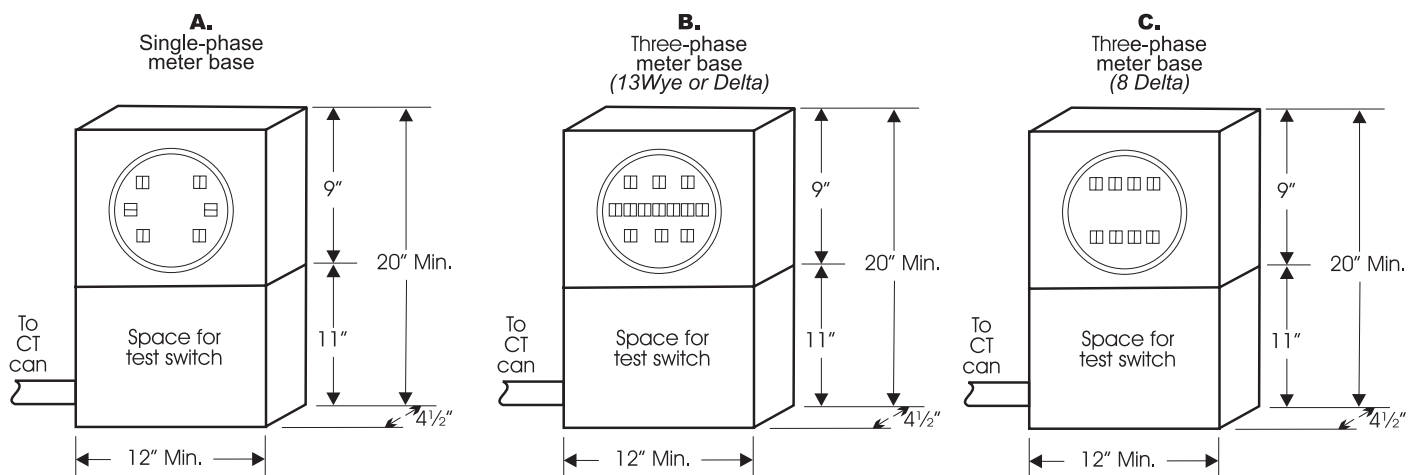

Figure D-7. Bases for instrument-rated meters.
2. Contact the meter department for a list of approved meter bases. Provide and install the meter base (see Table 1 and Figure D-7) and the metering circuit conduit.